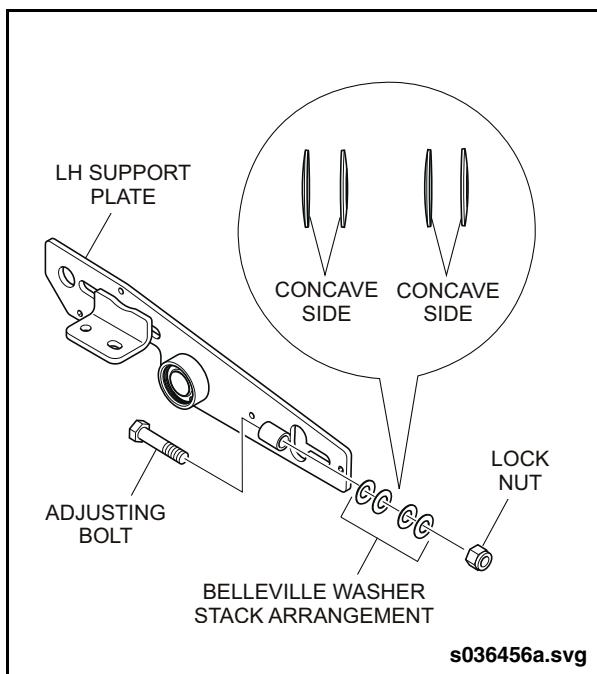

Fig. 20-15: Adjusting Bolt Installation
- b. Install the adjusting bolts into the sleeves located at the end of each side support plate. The flat on the hex head bolt should seat against the side support plate. Install the Belleville washers and locknut. Leave the adjusting nut in the full slack position at this time. See "Fig. 20-15: Adjusting Bolt Installation" on page 24.